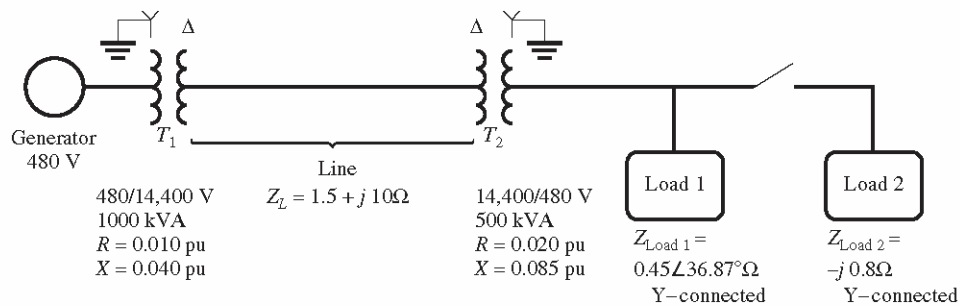

FIGURE P2-4
- 2-24. Figure P2-4 shows a one-line diagram of a power system consisting of a three-phase 480-V 60-Hz generator supplying two loads through a transmission line with a pair of transformers at either end (NOTE: One-line diagrams are described in Appendix A, the discussion of three-phase power circuits.)